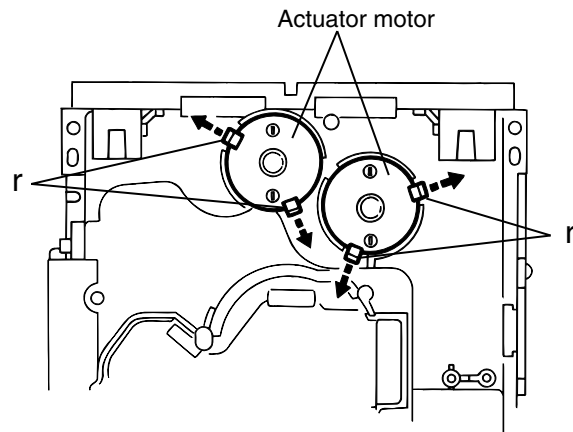

Fig.21
5. After turning over the chassis assembly, remove the actuator motor while spreading the four pawls r fixing the right and left actuator motors in the arrow direction(See Fig. 21).